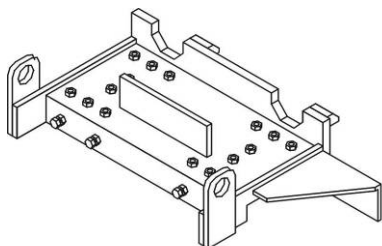
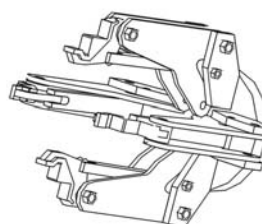

Fig3.1
Fig3.2
- 2) Adjusting the bolts in paralleling movement small board (Fig3.1). Tighten the bolts in the upper place of the paralleling movement small board. After using the machine a period of time, push the paralleling movement small board according to the direction (Fig3.2), loosening the fixing bolt on the upper place of the paralleling small board. Adjust the slide block and bolts. Then tighten all the bolts.(The bolts shouldn't be neither too tight nor loose.)